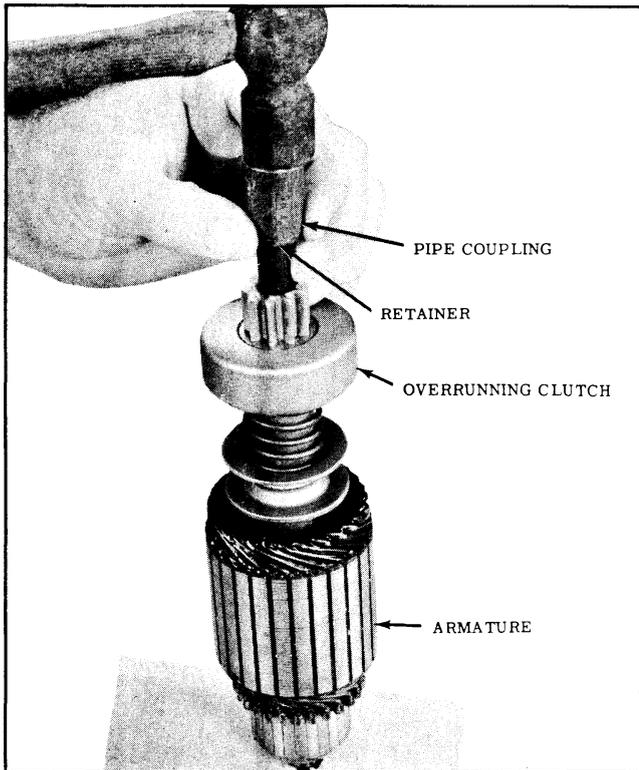

Fig. 13-27 Removing Pinion Retainer
- b. Slide a standard half inch pipe coupling or other metal cylinder of suitable size (an old pinion can be used if available) onto shaft so end of coupling or cylinder butts against edge of the retainer. (See Fig. 13-27) Tap end of coupling with hammer, driving the retainer towards armature and off snapping.